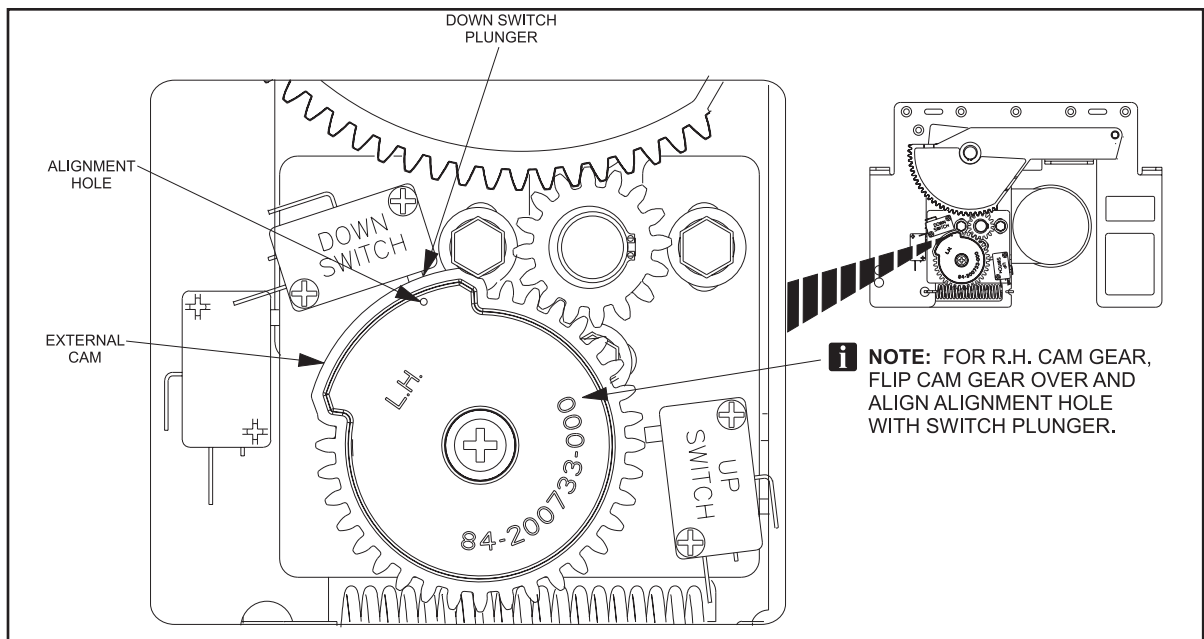

Figure 34. Motor with External Limit Switches
10. With the actuator arm in the fully down horizontal position, install the cam gear, washers and spacer. Position the 1/16" (1.5 mm) alignment hole in the cam gear with the "Down Switch" plunger. Refer to *Figures 34* and *35*.
4. Position the 1/16" (1.5 mm) alignment hole in the cam gear with the "Down Switch" plunger. Refer to *Figure 34*.